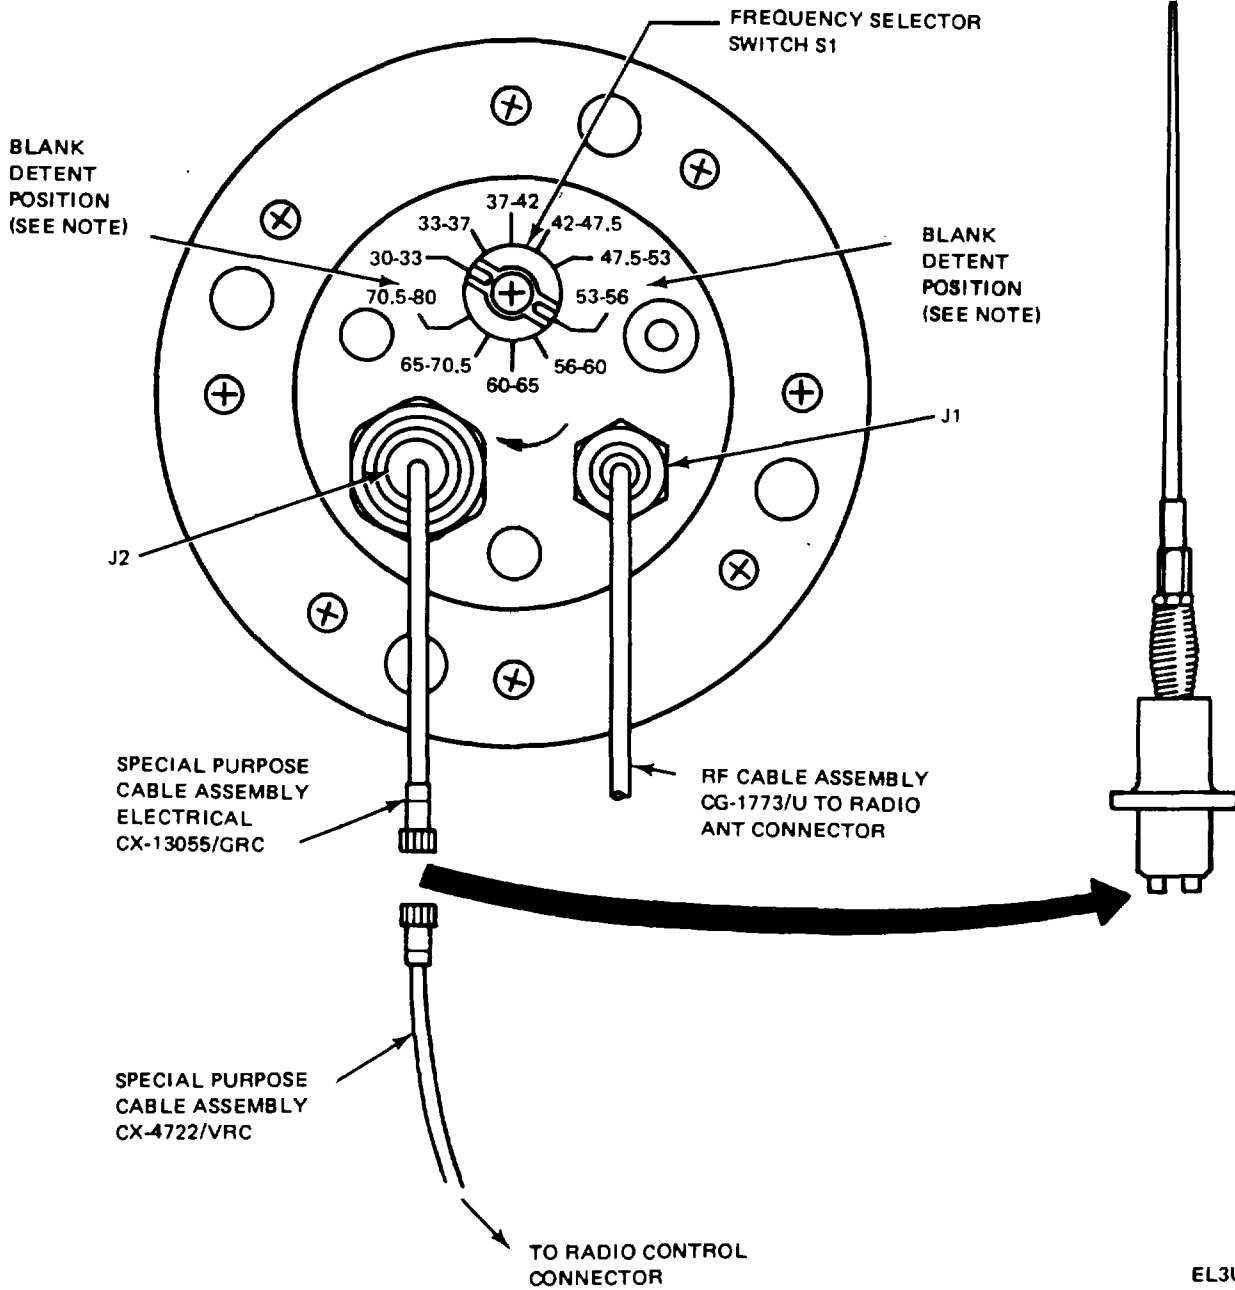

Figure 2-5. Antenna AS-2731/GRC, control and connectors.
(2) Base assembly consists of a Lexan plastic housing, rf coil container, and an rf coil. The rf coil container is an rf coil cage, and the rf coil assembly is an RG-303 U 50-ohm coaxial cable wrapped around a ferrite rod that transfers rf energy to the antenna. To minimize antenna current, the susceptance of the rf coil to ground is changed at different subband frequencies by a step-action rotary solenoid selector switch.
(3) The frequency selector assembly provides required components for each subband to maintain a vswr of 3.5 to 1 or lower. Switching and relay assembly directs to the desired subband the required shunt reactors and impedance networks. Control voltages from an associated radio receiver-transmitter unit (ret unit) positions the rotary solenoid to the correct subband, or if desired, a manual selection of the desired subband can be made using frequency selector switch S1.
(4) The spring assembly is mounted on top of the base assembly, and consists of a spring mount assembly through which an rf cable assembly runs. The spring mount provides threaded connection at the top of the spring for attaching the AS-2732, GRC. It supports the AS-2732'GRC in a vertical position and is flexible enough for the AS-2732 GRC to survive high impact blows from obstructions.
(5) Mounting hardware includes screws, nuts, lockwashers, a gasket, and a bonding jumper assembly for installation of the AS-2731 GRC. The supplied gasket is placed between the base cover flange of the MX-9146/GRC and the antenna mounting bracket for preventing water leaks into a ground vehicle, especially in tank installations. The bonding jumper is connected between one of the posts under the MX-9146 GRC and the other end to the vehicle. A lock wire is obtained locally.
c. *Cable Assembly, Special Purpose, Electrical CX-13055 GRC.* The cable assembly is a short adapter cable connected between cable connector of AS-2731 'GRC and control cable of associated radio (fig. 2-5). Cable Assembly, Special Purpose, Electrical CX-4722(*)VRC is the control cable used to connect the radio to the MX-9146:GRC. (*) represents all models of the cable assembly.)
k. Connect the rf cable from the associated radio to connector J1 of MX-9146/GRC (fig. 2-5).
(fig. 2-5)